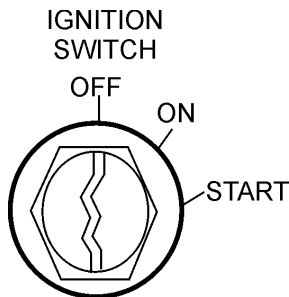

Figure 18. Ignition Switch
3. Insert the ignition key into the ignition switch (Figure 18), turn the key to the ON position, then to the START position. Release the key when the engine starts.
3. Turn the ignition key (Figure 18) to the OFF position.